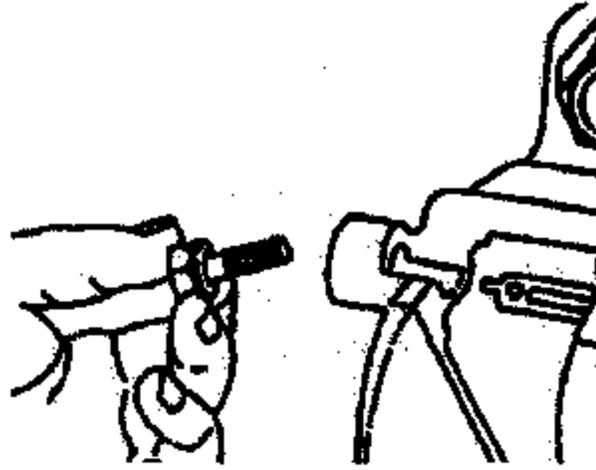

Figure 19
3. Make sure the engine is off and the front wheels of the vehicle are straight ahead. Remove and discard the poppet fixed stop bolt (if equipped) and washer from the lower end of the housing (Figure 19).